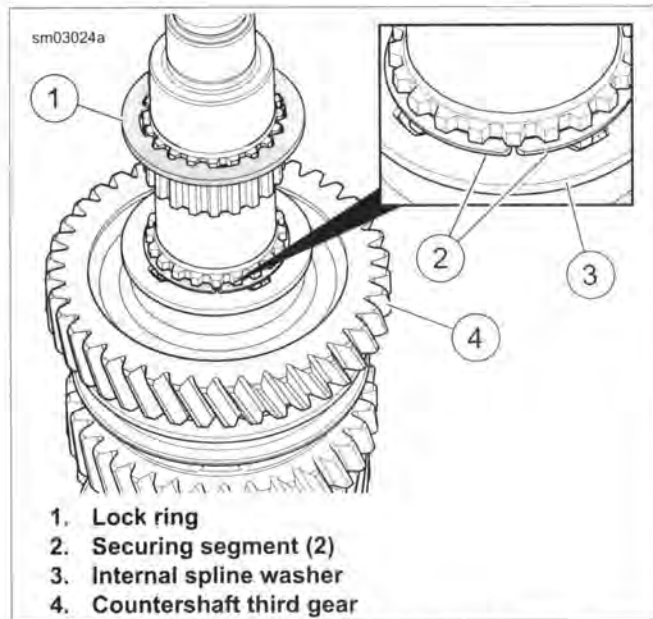

Figure 6-23. Countershaft Third Gear
7. See Figure 6-23. Remove securing segments (2), internal spline washer (3), countershaft third gear (4) and bearing.
2. See Figure 6-23. Install **new** needle bearing, countershaft third gear (4), internal spline washer (3), securing segments (2) and lock ring (1).